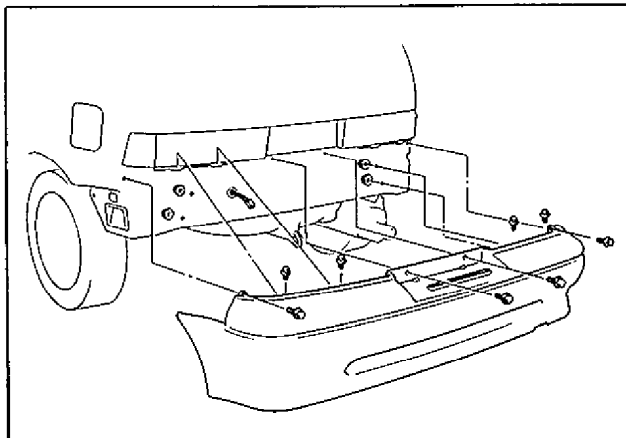

Fig. 2-4
- 2) Remove bumper fitting bolts and nuts shown in Fig. 2-4.